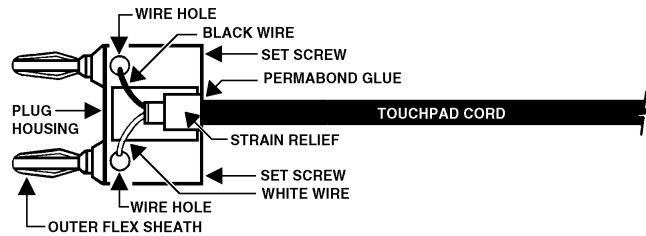

Figure 17 - Banana Plug
- 1) Clip off the old plug just above the plug housing (see Figure 17).